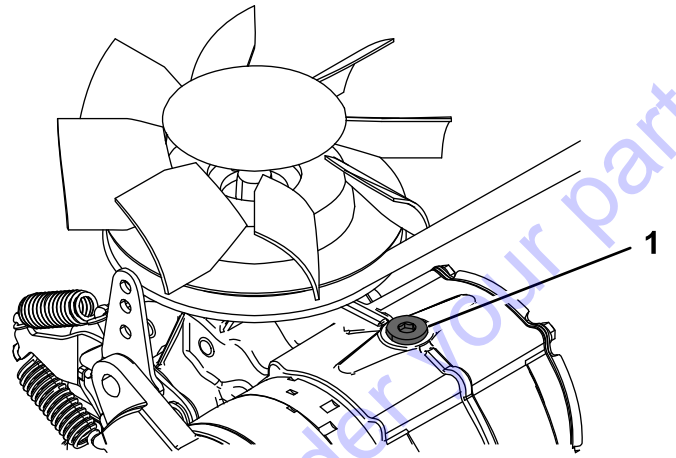

Figure 51
- Loosen the vent plug in each transmission until loose (Figure 51).